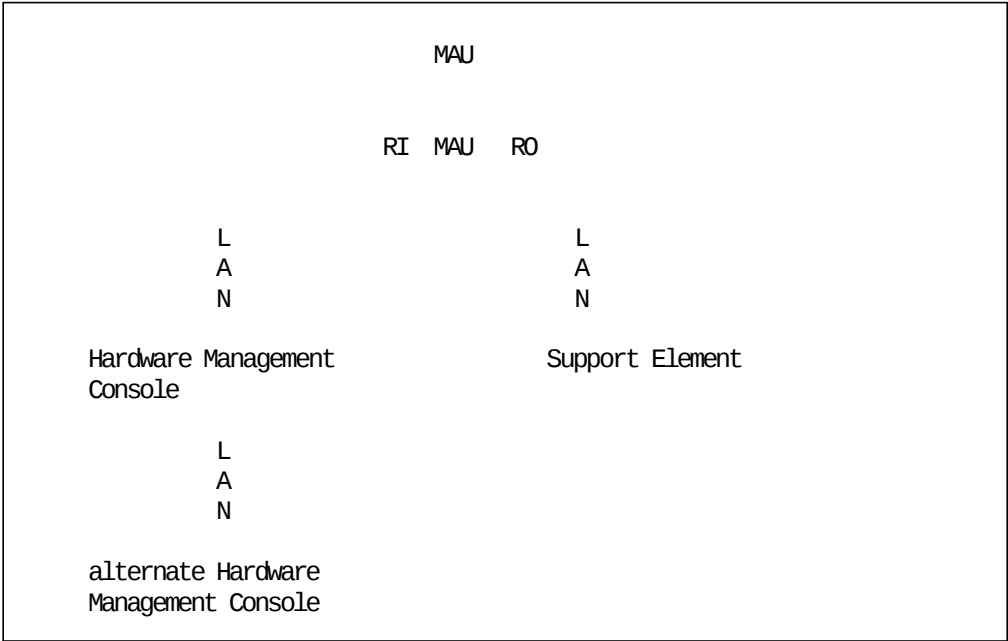

Figure 16. LAN Connection for 9221 211 Based Systems
Figure 16 on page 139 shows the normal Local Area Network (LAN) connections for the 9221 211 based models. If the configuration shown is connected to other frame strings, the cable from Ring Out (RO) is connected to Ring IN (RI) of the other string and RO from the other string is connected to RI of this string to close the loop.